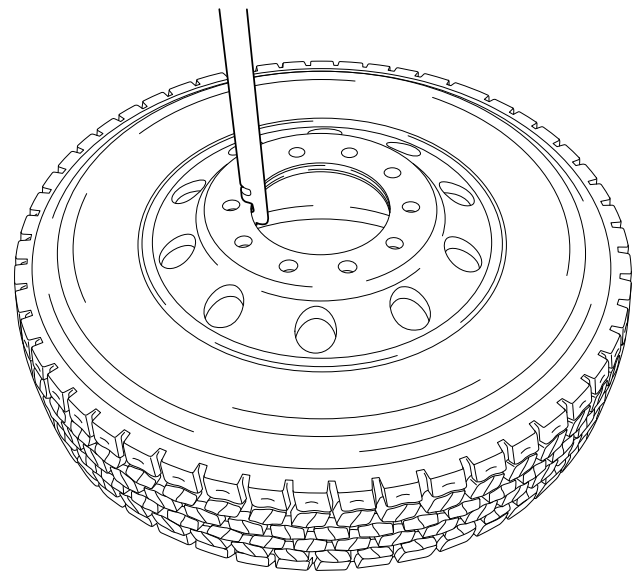

Figure 2
1. **Aluminum Wheel:** Hook the second notch (marked ALUMINUM WHEEL) of the wheel tipper to the rim of the wheel as shown in Figure 2